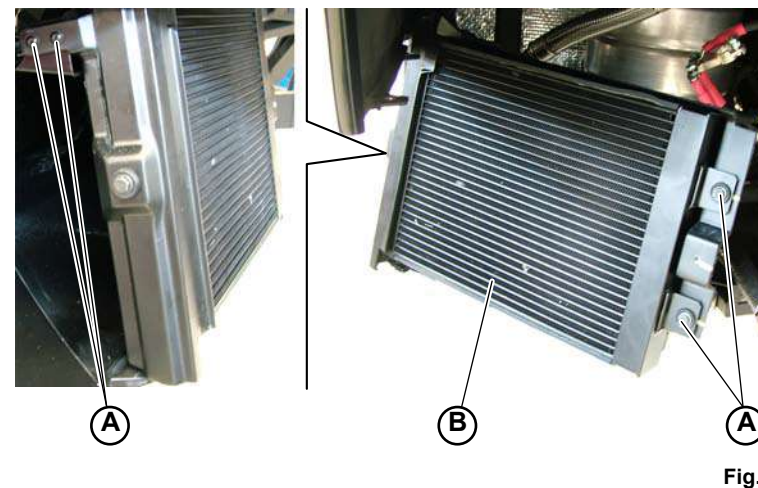

Fig.1
3. Unscrew the 4 lower screws (**A-Fig.1**) that secure the radiator (**B-Fig.1**).